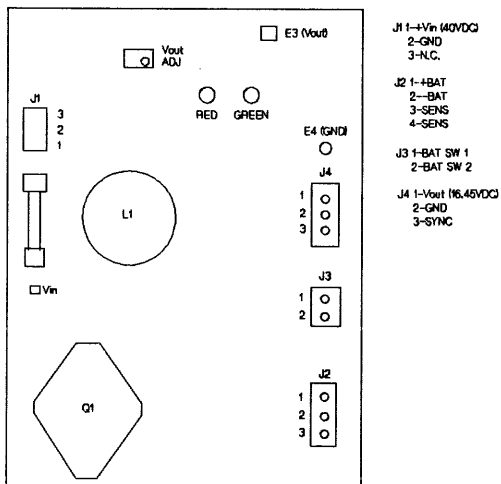

Figure 6-5. Memory Preregulator PCA (Series 30,33,39/40/42/42XP/52 and 44/48/58)
3. Adjust the VOUT potentiometer R10, shown in Figure 6-5, until the battery level is approximately +16.45 volts at 25 degrees C.
2. Adjust the VOUT potentiometer R10, shown in Figure 6-5, until the battery level is approximately +16.45 volts.
2. Observe that the discharge indicator (red LED) on the memory preregulator PCA lights, shown in Figure 6-5, and that the +12M LED on the card cage backplane remains lit.